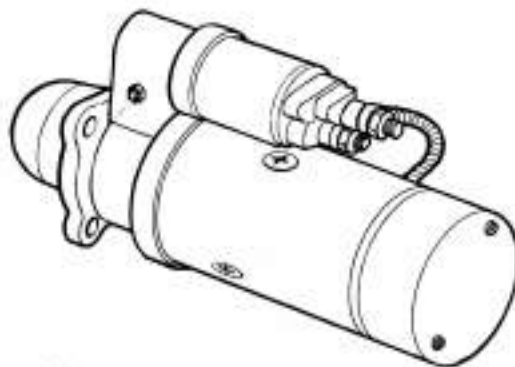

Fig 5–54 Starter
7.2.6 When the engine is stopped, turn the start switch to "OFF" position to prevent electric current coming from the battery into the magnetic field winding (see K switch in Fig5–53).
The starter is shown in Fig 5–54.